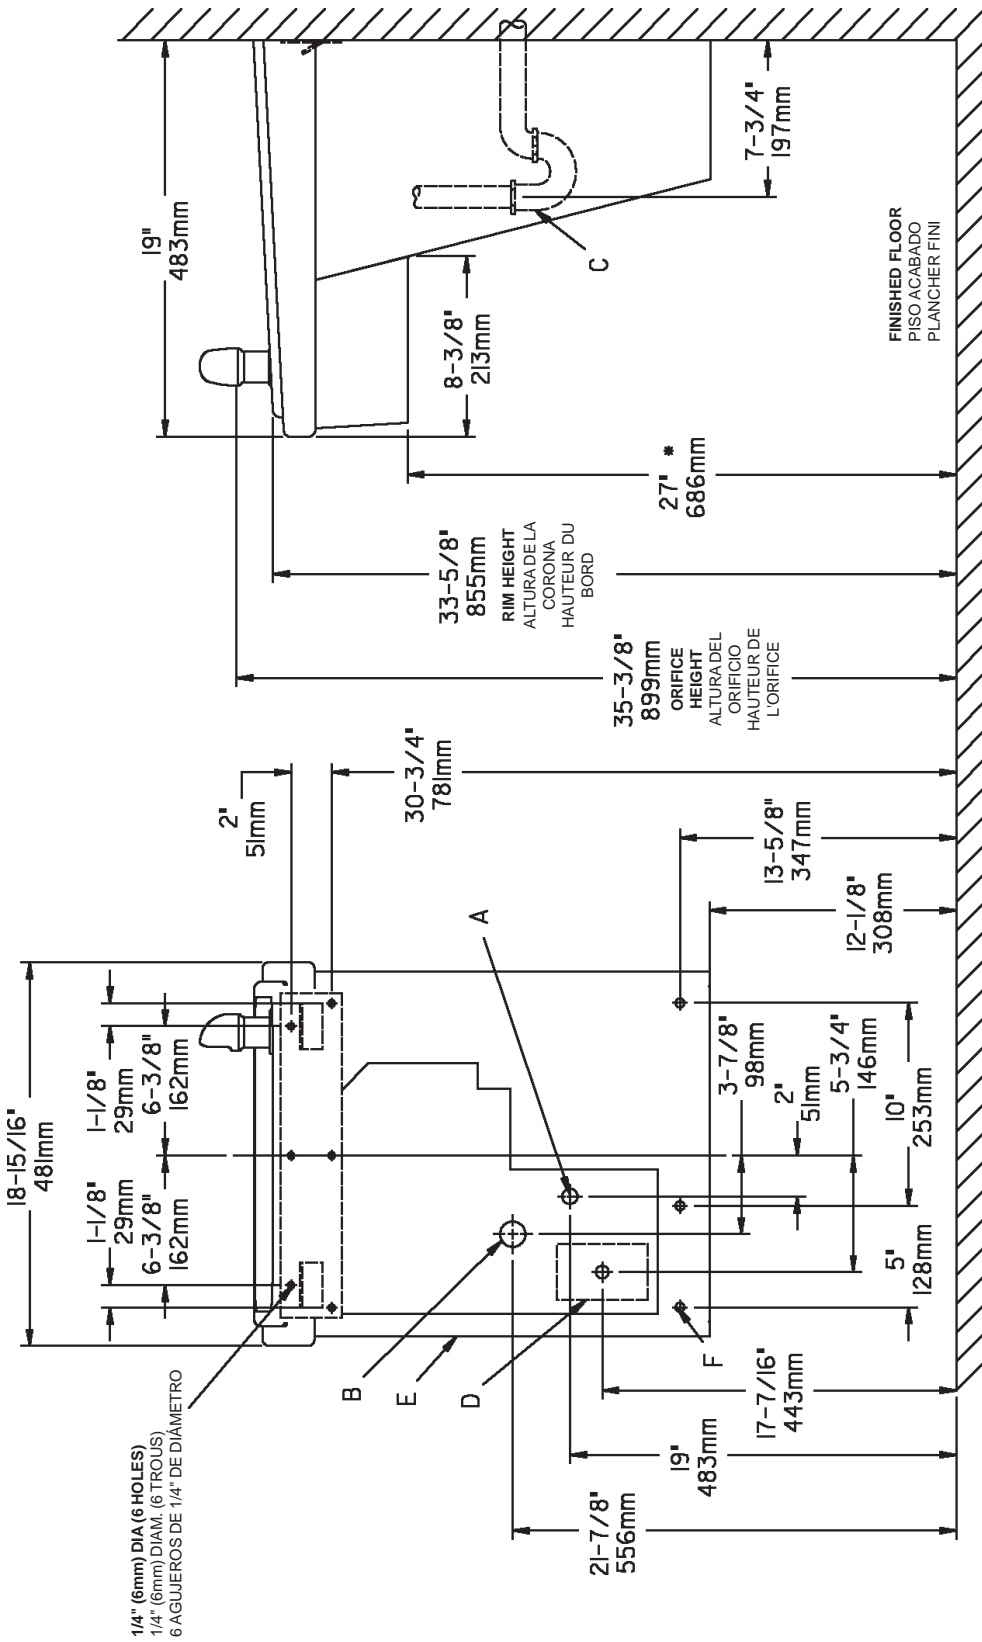

FIG. 2
- 2) Mount the hanger bracket and trap as shown in Figure 2.